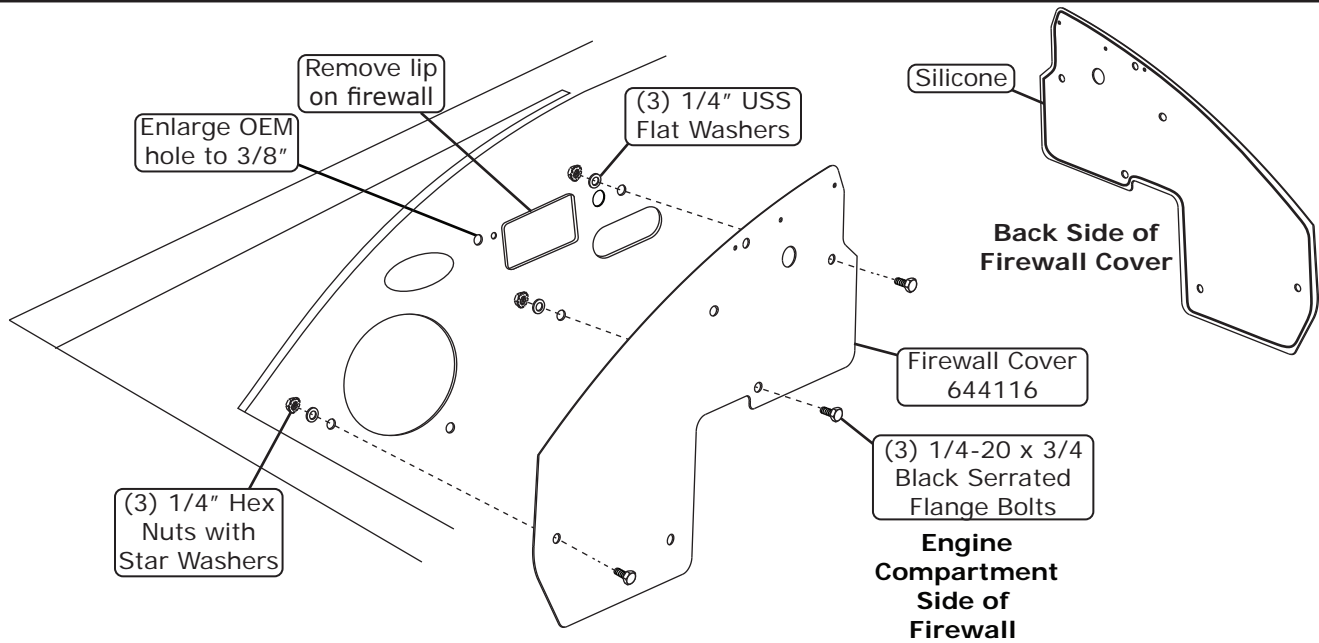

Figure 1
3. Apply 1/4" bead of silicone around the back side of the firewall cover as shown in Figure 1, below.
4. From the engine compartment, install firewall cover onto the firewall and secure to the firewall using (3) 1/4-20 x 3/4" black serrated flange bolts, (3) 1/4" USS flat washers and (3) 1/4-20 hex nuts with star washers as shown in Figure 1, below.